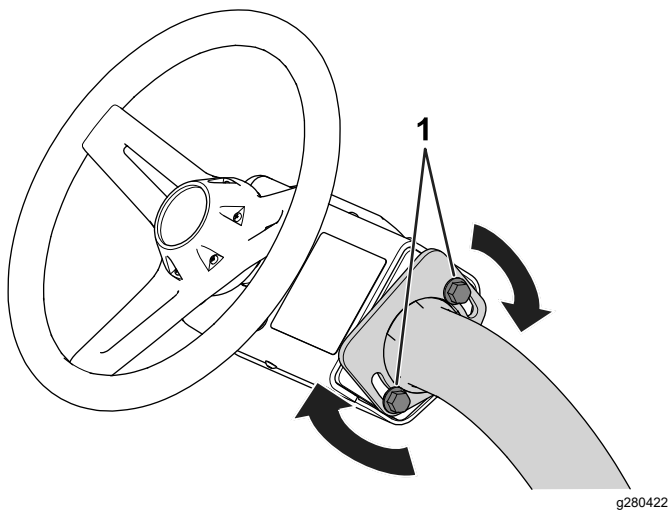

Figure 32
1. Loosen the bolts (Figure 32) that secure the steering-wheel assembly to the steering arm.
3. Tighten the bolts (Figure 32) to secure the steering-wheel assembly in your adjusted position.